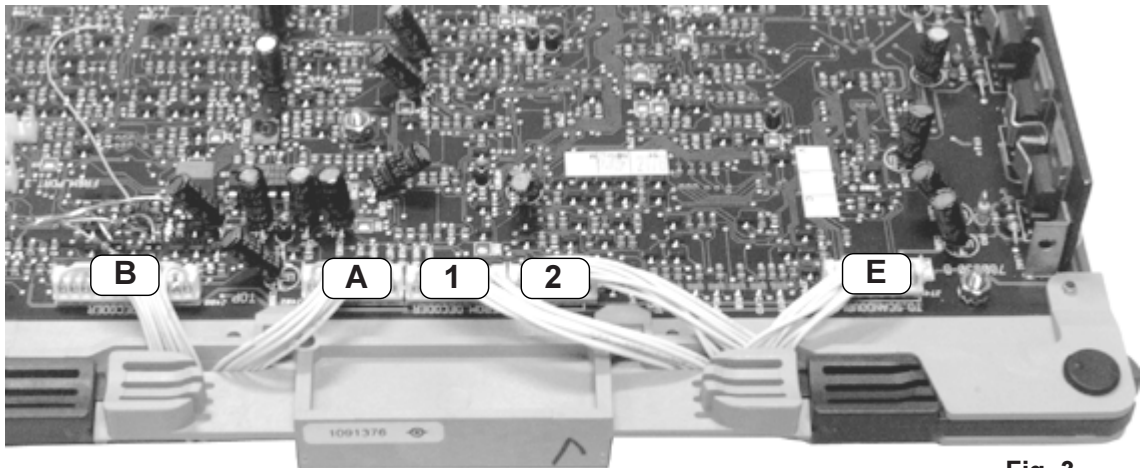

Fig. 3
B. Install Interconnection cables between Interface module and the RGB Input+Decoder module as shown in figure 3 and 4.